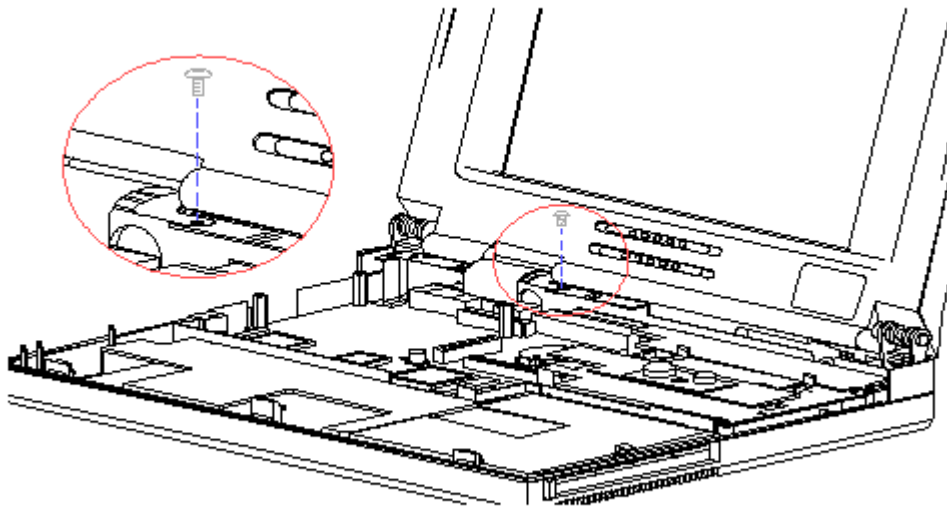

Figure 2-13. Removing Flex Cable Ground Strap from System Chassis
4. Using a Phillips screwdriver, remove the screw that attaches the flex cable ground strap to the system chassis (Figure 2-13).